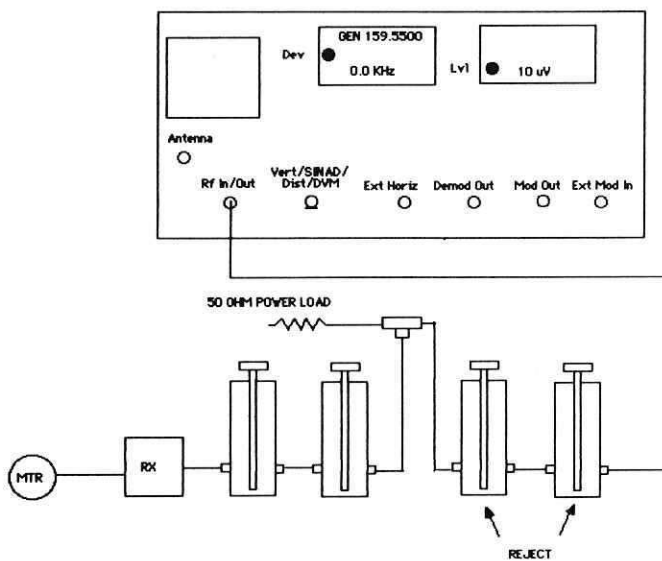

FIGURE 5.13—DUPLEXER ADJUSTMENT SETUP; REJECT NOTCH ON TRANSMIT LEG
1. Connect the service monitor's "RF In/Out" to the in-service duplexer as shown in figure 5.13. Disconnect the cable at the duplexer transmitter port that comes from the transmitter. Move the service monitor's "RF In/Out" cable from the duplexer receiver port to the duplexer transmission port. Reconnect the cable coming from the receiver to the duplexer receiver port. Disable the receiver PL.